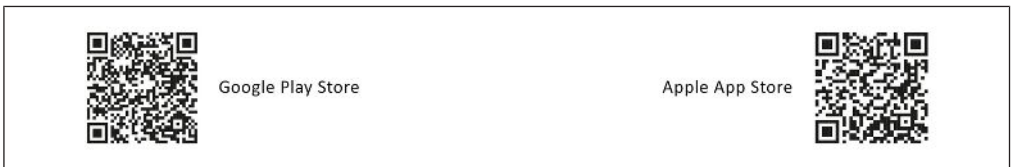

Fig. 12: Links to download “Ersa TRACE”
- c) Carefully insert the Ethernet network card all the way into the opening at the back of the soldering station (see Fig. 12).